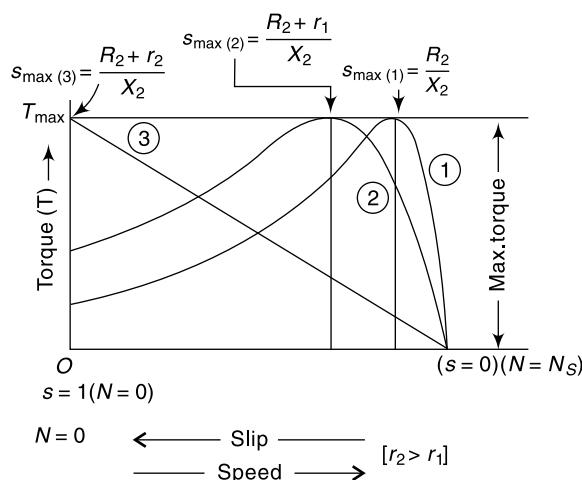

Fig. 5.4 Torque-slip characteristics of an induction motor
i.e., the torque T vs. slip s curve for larger values of slip is approximately a rectangular hyperbola. Consequently, any further increase in motor load, beyond the point of maximum torque, results in decrease of the torque developed by the motor. Eventually, the motor slows down. The maximum torque developed in an induction motor is called the *pull-out torque* or *break down torque*. This torque is a measure of the short time over loading capability of the motor. Figure 5.4 Shows the torque-slip characteristics of an induction motor operating with constant applied voltage, and constant frequency.